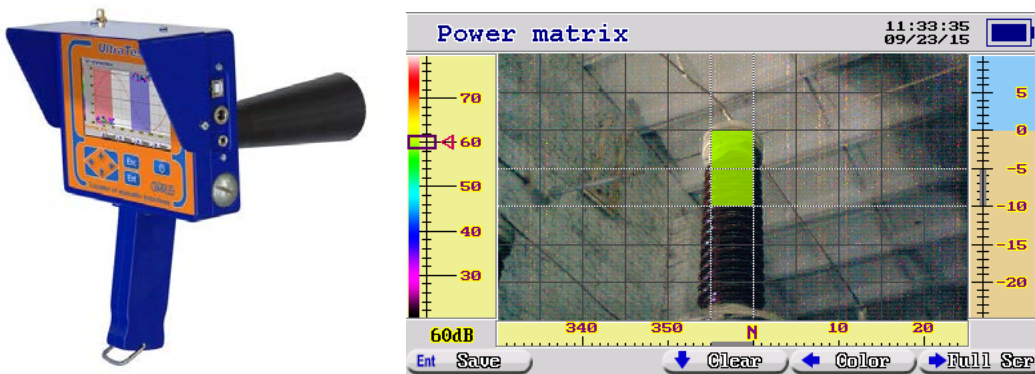

Figure 7 UltraTest Device
**5. UltraTest Device (see Figure 7)**